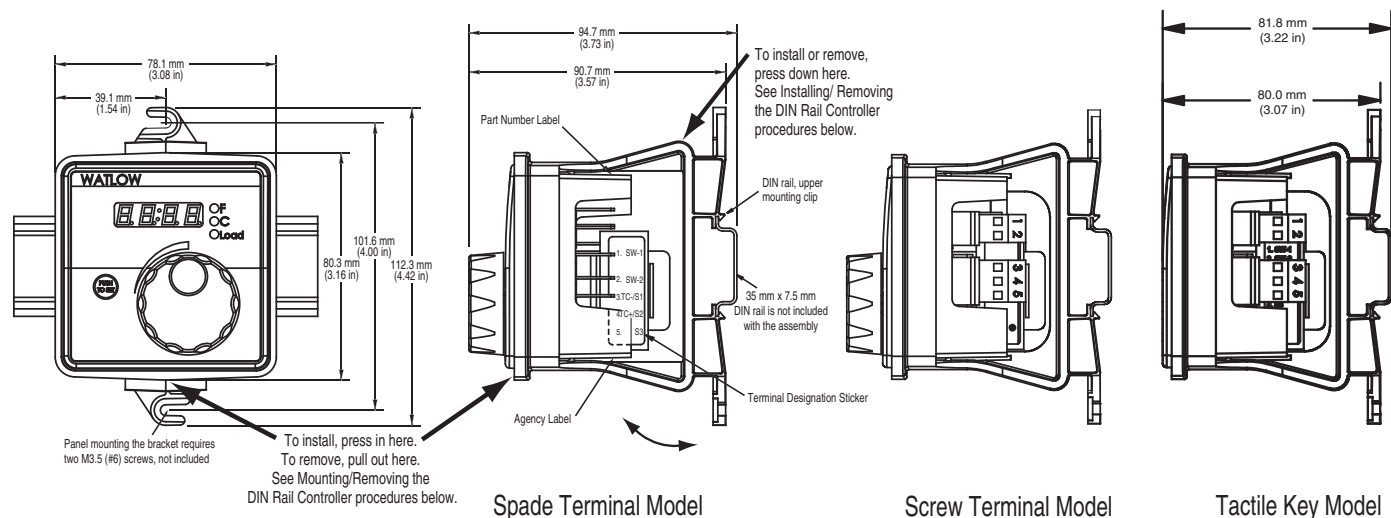

Figure 4a
2. Drill and tap two 2.7 mm (0.106 in) diameter holes in the desired panel location. See Figure 4a above for hole locations.
1. Place the DIN rail upper mounting clip on the top edge of the DIN rail. See Figure 4a. DIN rail spec, DIN 50022, 35 mm x 7.5 mm (1.38 in x 0.30 in).
2. Press down firmly on the top back edge of the DIN rail bracket and push in on the bottom, front edge of the bracket. The controller snaps securely onto the rail. See Figure 4a. If the controller does not snap on, check to see if the DIN rail is bent. Minimum clipping distance is 34.8 mm (1.37 in), the maximum is 35.3 mm (1.39 in).
3. While pressing down on the top, back edge of the DIN rail bracket, pull forward on the bottom, front edge of the DIN rail bracket. See Figure 4a.